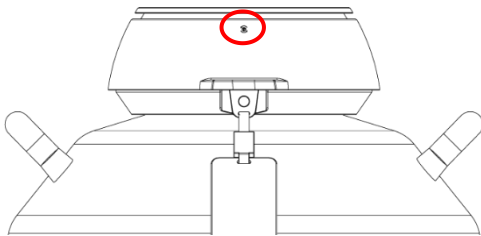

Figure 2-7 Emergency Key Slot
- 1) Press the power button to power off the device, then insert the key into the emergency key slot as shown in Figure 2-7.